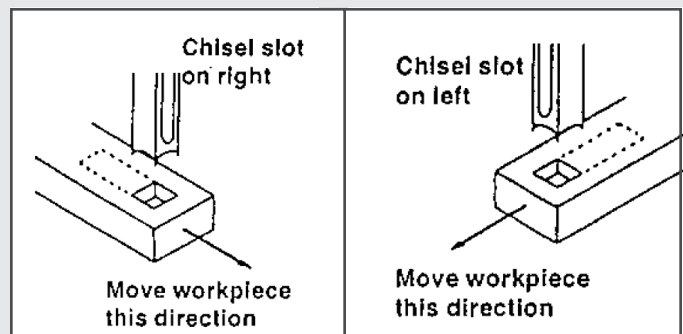

FIGURE 5: Positioning chisel slot
4. After completing the first cut, move the workpiece one chisel width either left or right, depending on the direction of your cut, and make your next cut. See Figure 5. Make sure the chisel slot is facing away from the cut.